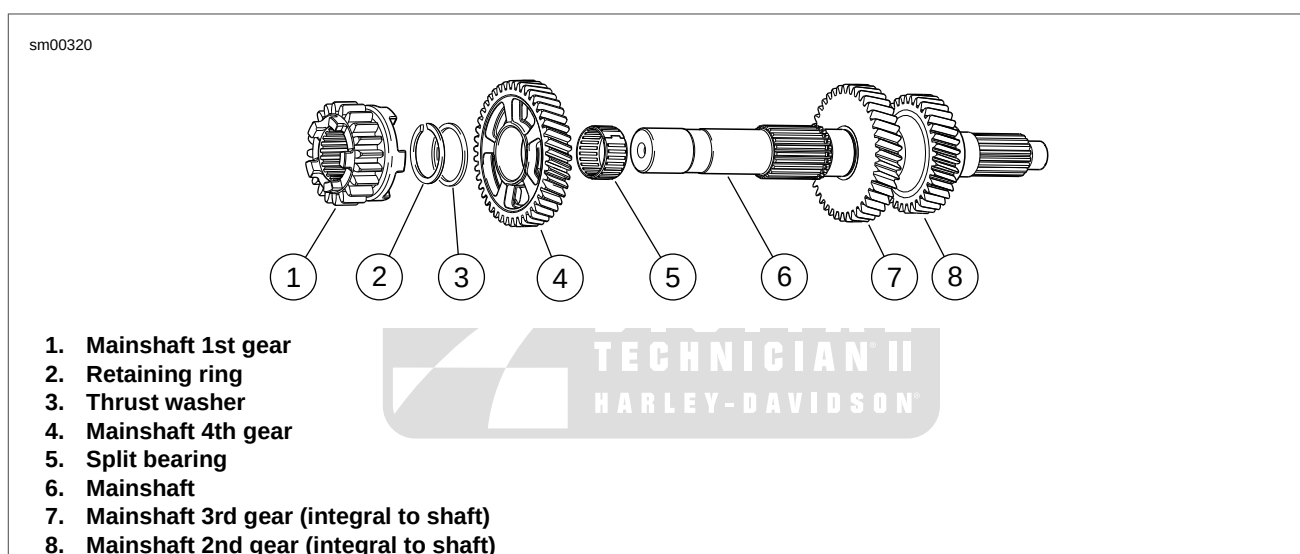

Figure 6-64. Transmission Mainshaft
1. See Figure 6-64. Install **new** split bearing (5) in 4th gear position on mainshaft.
2. Install 4th gear (4) and thrust washer (3).
3. Using RETAINING RING PLIERS (Part No. J-5586-A), expand and install new retaining ring (2).
4. Install 1st gear (1).